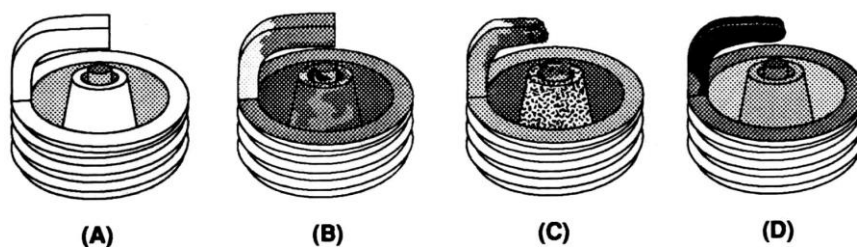

Figure 11 Spark Plug Condition
2. Perform a dynamometer pull or a full throttle pass down the racetrack. Note the power reading or vehicle mph (not e.t.). Examine spark plugs for the indication of lean or rich nitrous/fuel conditions (refer to Figure 11 for tips on reading the spark plugs).
6. Perform a dynamometer pull or a full throttle pass down the racetrack. Note the power reading or vehicle mph. Examine the spark plugs for signs of detonation (refer to Figure 11 for tips on reading spark plugs).